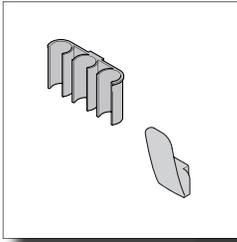

Fig. 1
- The BLUE CLEAN POWER WASHER requires some minor assembly, the accessory holder and the electric power cord holder. (Fig. 1) Slide these pieces onto the grooves on the either side of the power washer.